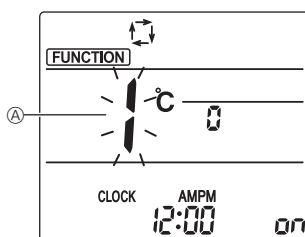
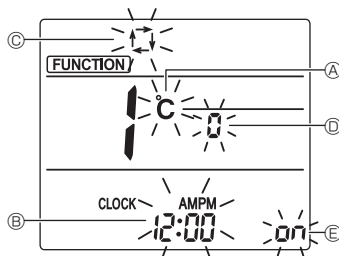

Fig. 4-1
Fig. 4-2
1. Press the **STOP** button ① to stop the air conditioner.
- If the weekly timer is enabled, press the **ON/OFF WEEKLY** button ⑧ to disable the timer. (WEEKLY ⑨ disappears.)
2. Press the **MENU** button ②.
- The Function setting screen will be displayed and the function No. ① will blink. (Fig. 4-1)
- Press the **DOWN** button ④ to change the function No.
3. Check that function No. "1" is displayed, and then press the **SET** button ③.
- The Screen display setting screen will be displayed. (Fig. 4-2)
4.2. Changing the temperature unit ① [Factory setting: °C] (Fig. 4-2)
- The function No. ④ blinks. (Fig. 4-1)